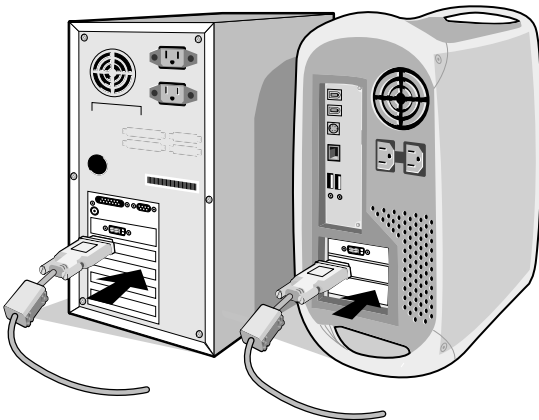

Figure A.1
2. **For the PC or Mac with DVI digital output:** Connect the DVI-D to DVI-D signal cable to the connector of the display card in your system (**Figure A.1**). Tighten all screws.